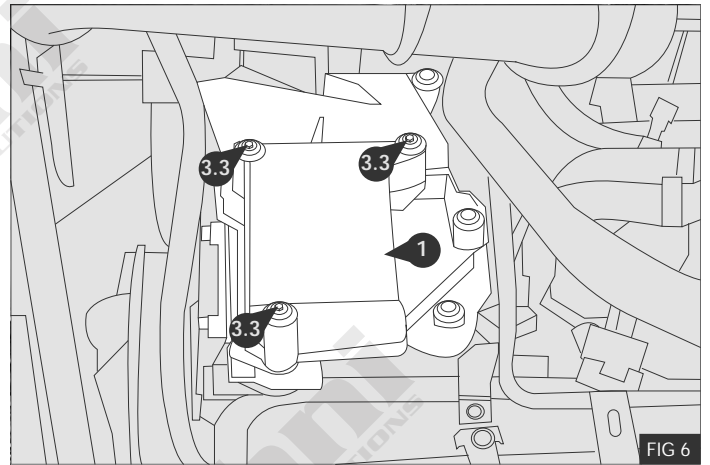

FIG 6
1. Secure the compressor mount bracket **1** to the engine using bolts **3.3** - Fig 6